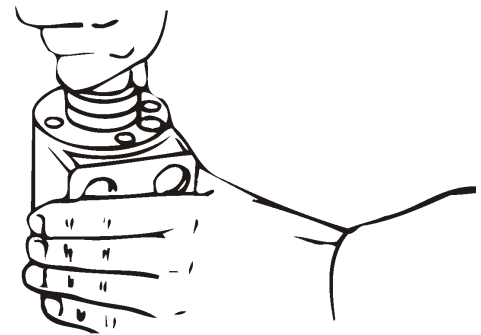

Figure 5-49, Output Shaft In Position
9. Install the needle thrust bearing, then the bearing race onto the output shaft. Pull the output shaft partially out of the housing. Push all three parts into the housing together (Figure 5-49). The bearing race must rotate freely when in position.
12. Lubricate the ID of the seal tube and OD of the shaft pressure seal with a light film of clean petroleum jelly. Align the small ID end of the seal tube with the seal seat in the mounting flange. Install the back-up ring and pressure seal in the tube with lips of the seal face up (Figure 5-49). Insert the seal driver in the tube and firmly push seal seat with a rotating action.